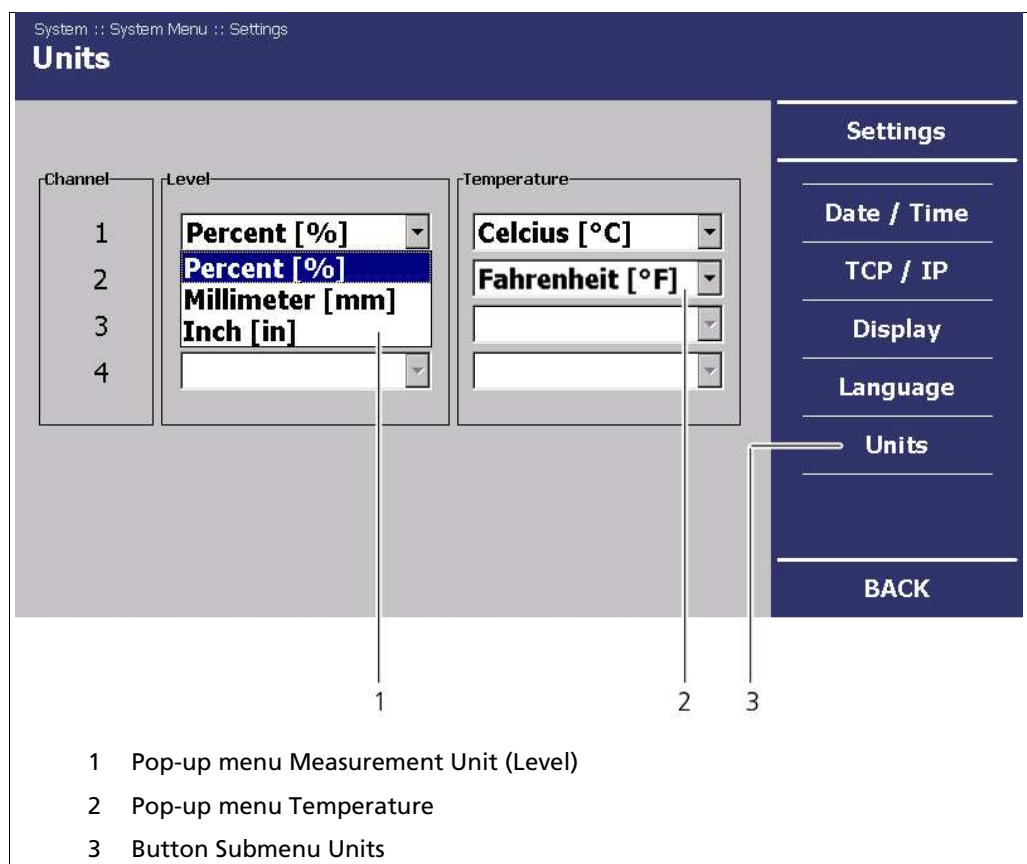

Fig. 32 System Menu, Settings - Units
1. In the **System Menu | Settings** click on **<Units>**, to change the measurement unit. (Fig. 32, Pos 3).
2. Click on the drop-down menu "Fill Level" (Fig. 32, Pos. 1), to select the desired measurement unit.
Carry out the selection similarly for the temperature unit (Fig. 32, Pos. 2).